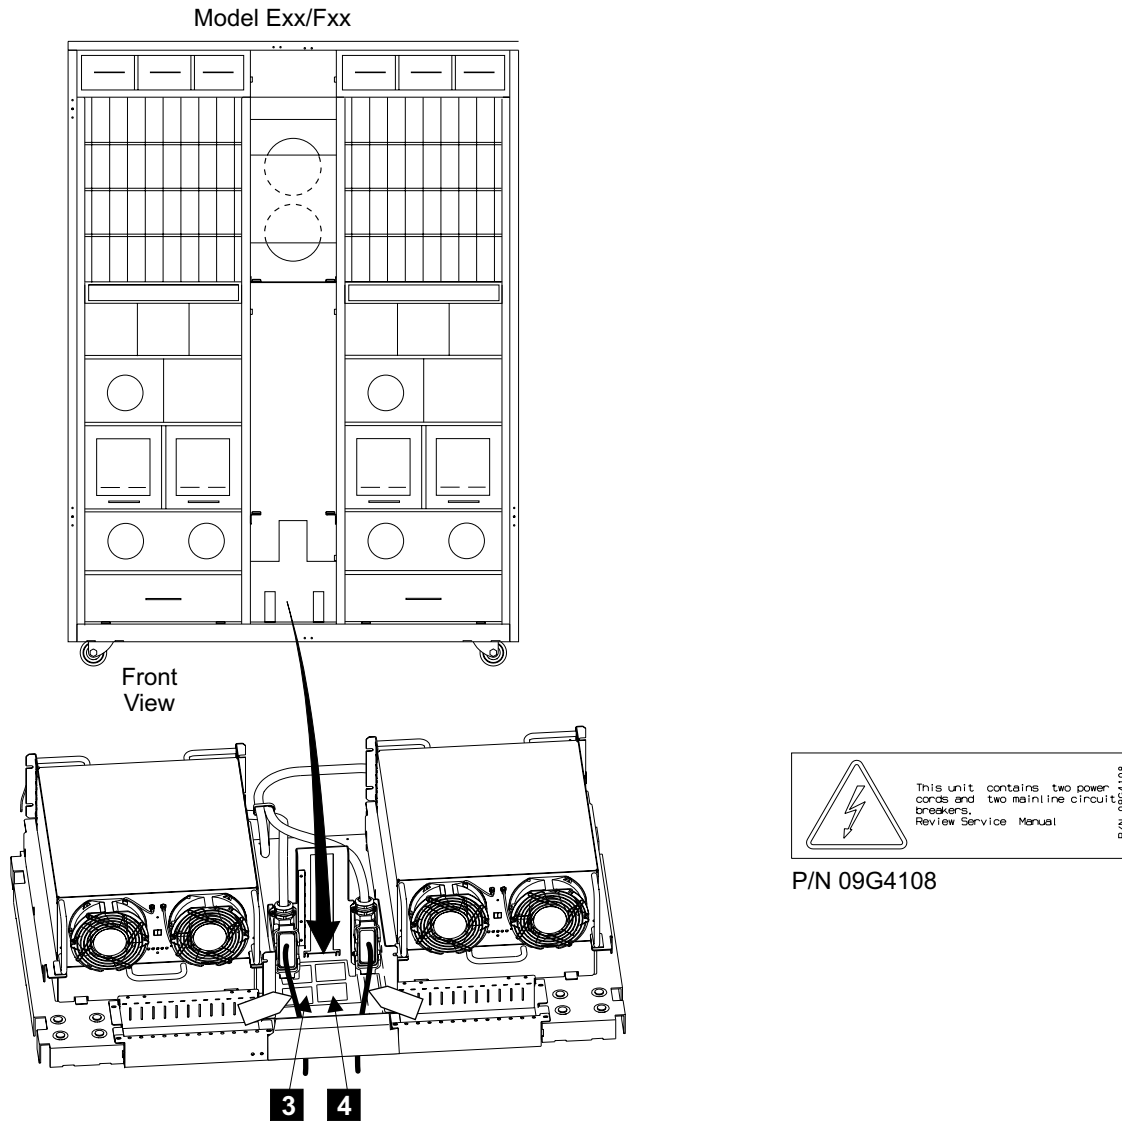

Figure 70. 2105 Model Exx/Fxx, Dual Mainline Power Cable Safety Labels (S008819q)
3. Ensure that the dual mainline power cable safety labels are installed on the front tailgate areas of the 2105 Model Exx/Fxx. See Figure 70 on page 188.